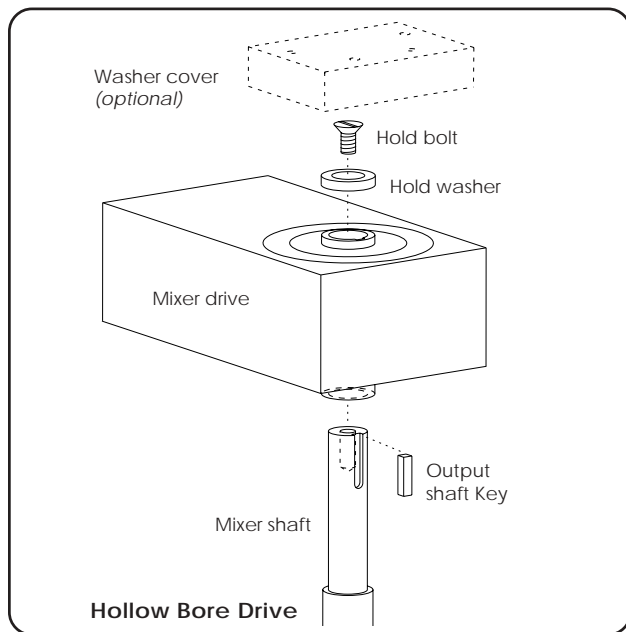

FIGURE B3.1
**B3.2 Hollow bore drive:** Remove cover over hollow bore on drive (when supplied). Remove hold washer and protective wrap on top of mixer shaft. Clean machined section of shaft. Coat the gearbox bore with NEVER -SEEZ®. Raise mixer shaft from below and through seal (if present). Install the shaft into the drive (see Figure B3.1). Be sure key is in place. Do not hammer parts in place. If keys do not fit, grind to size. Before bolting hold washer in place, add NEVER -SEEZ® compound (supplied) to the top of shaft. Tighten the hold washer securely. Reinstall the hollow bore cover (when supplied).